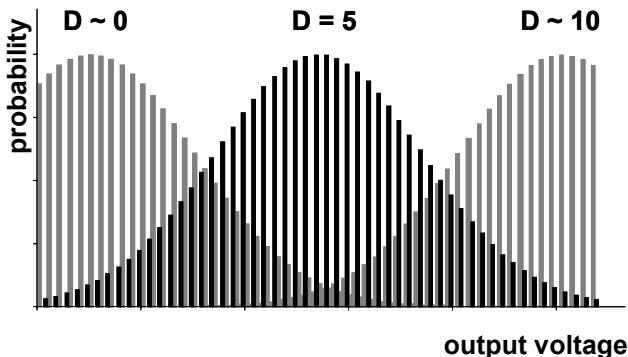

Fig.1: Probability distribution for different settings of "D"
With the control set fully counterclockwise most of the random voltages will be low magnitude but even medium and high magnitude voltages may appear but with smaller probability. As the control is turned to the right (or a positive control voltage appears at the CVD input) the distribution moves through medium to high magnitude voltage probability. The symbol at the lower jack ⑥ socket shows this coherence graphically (see also fig. 1).